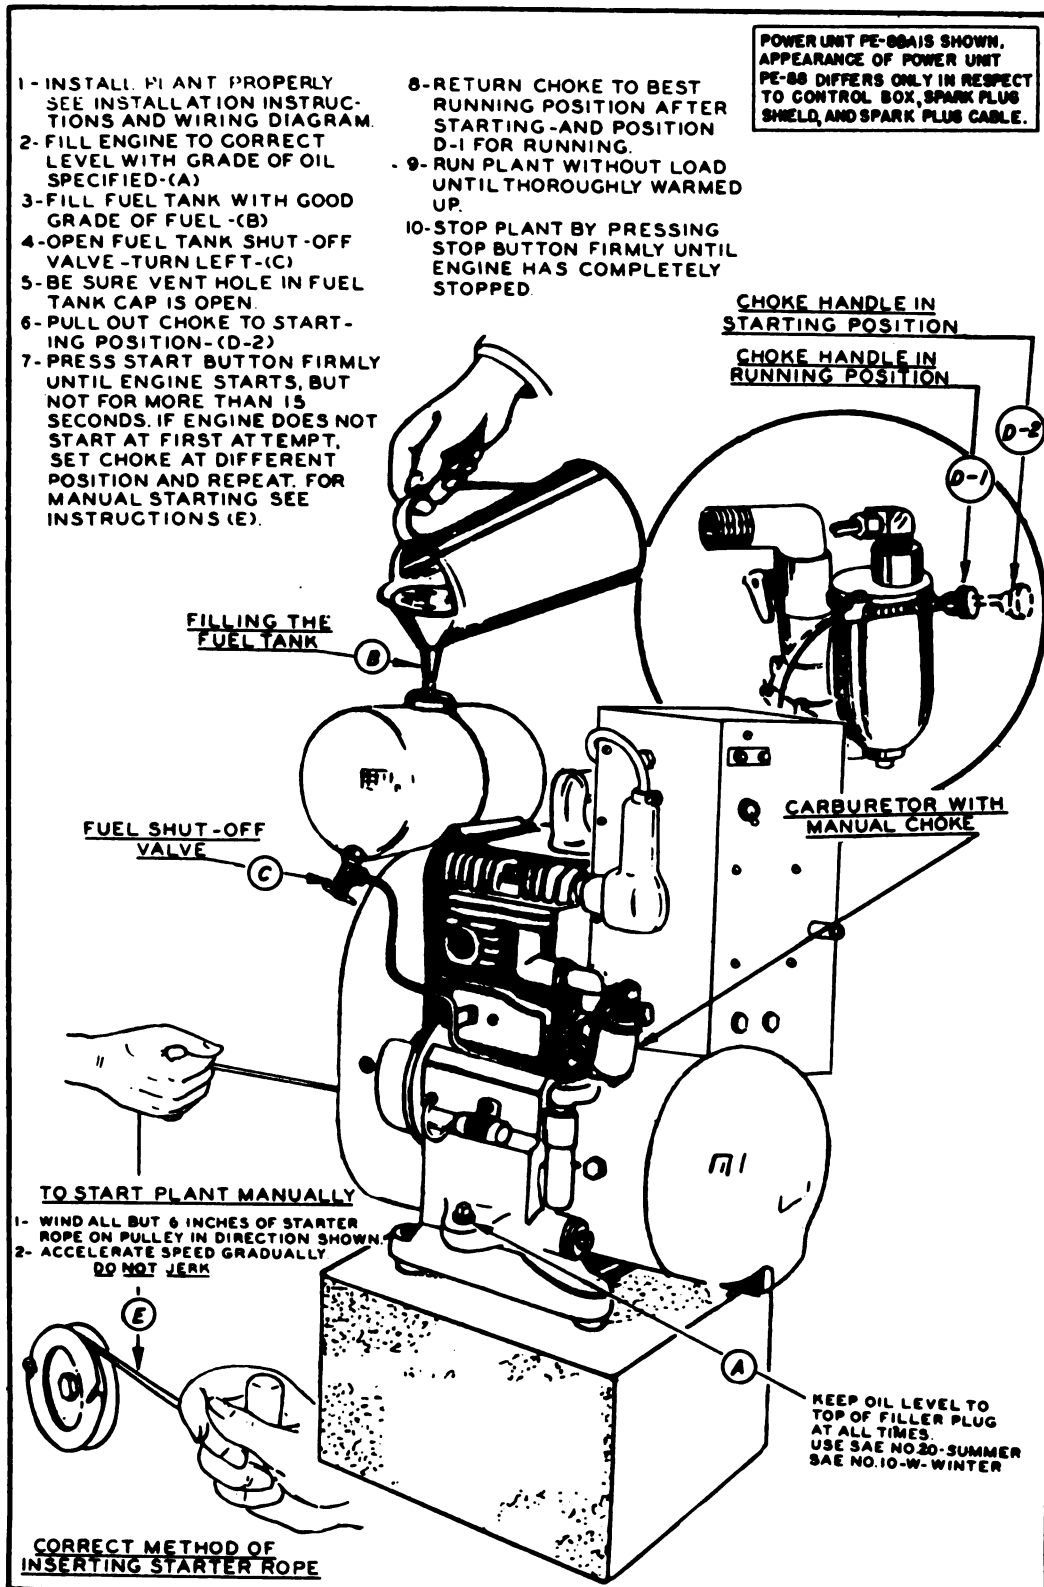

Figure 3-1. Operating Instructions
(2) **CRANKING.**—Wind the starting rope clockwise around the grooved starting sheave on the blower end of the power unit (fig. 3-1) and give a strong pull the full length of the rope. Repeat, if necessary.
(5) **CRANKCASE LUBRICATION.**—Remove the oil fill plug from the crankcase and fill the crankcase with oil to the level of the top of the filling hole. (See fig. 3-1.) Use U. S. Army Spec. No. 2-104-B oil of proper S.A.E. rating according to the lowest temperature to which the power unit will be exposed, as indicated in the following table.